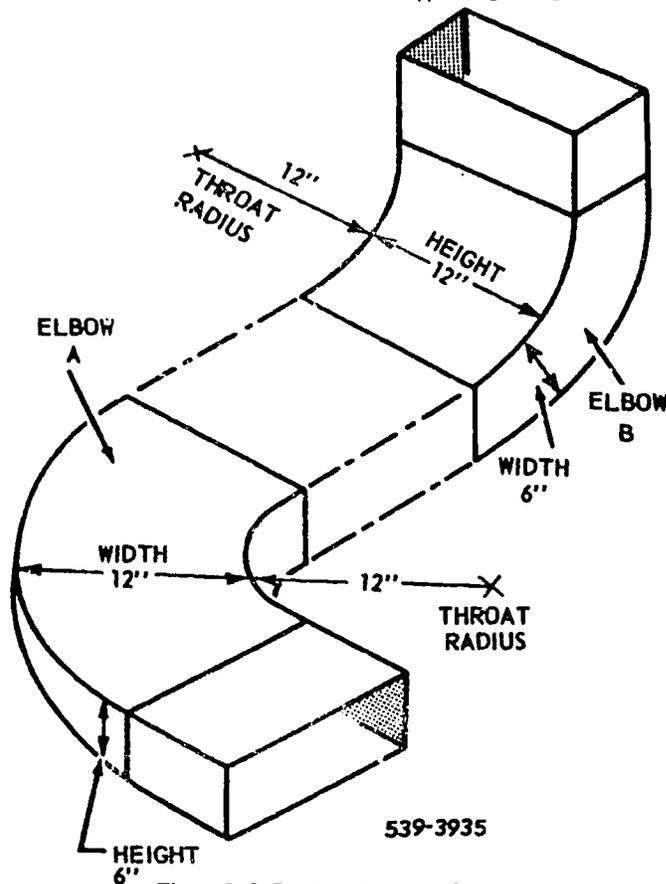

Figure 3-3. Rectangular duct elbows.
The elbows in square or rectangular ducts have a dimensioning characteristic that you must understand if you want maximum airflow. This characteristic concerns the width of the elbow, which is somewhat different from the width of the straight duct sections. Figure 3-3 illustrates two elbows in a rectangular duct. Notice that the width of elbow A is 12 inches, and the width of elbow B is 6 inches. The width of an elbow in a square or rectangular duct is always the dimension that lies in the same plane as the radius of the elbow.
Elbow A in figure 3-3 has more turbulence and the resulting pressure loss than elbow B because of the ratio between the throat radius (R) and the elbow width (W). A ratio between 1 to 1 and 2 to 1 is desirable, the latter ratio being the more desirable. The throat radius ratio is also called inside radius ratio and you find it by dividing throat radius (R) by width (W). For example, the inside radius ratio for elbow A is 1 to 1, determined by substituting the width and throat radius dimensions ($\frac{R}{W} = \frac{12}{12} = \frac{1}{1} = 1$). In speaking of ratios, it is common practice to use the equivalent value, such as 1:1 = 1. Thus, a ratio of 2 to 1 is called a ratio of 2, and a ratio of 1 to 2 is called a ratio of 0.5, etc.
Elbow B in figure 3-3 has an inside radius ratio of 2, or $\frac{12}{6} = \frac{12}{6} = \frac{2}{1} = 2$, which is more desirable than a ratio of 1. Both elbows in the illustration have a satisfactory airflow, although elbow B has the better airflow.